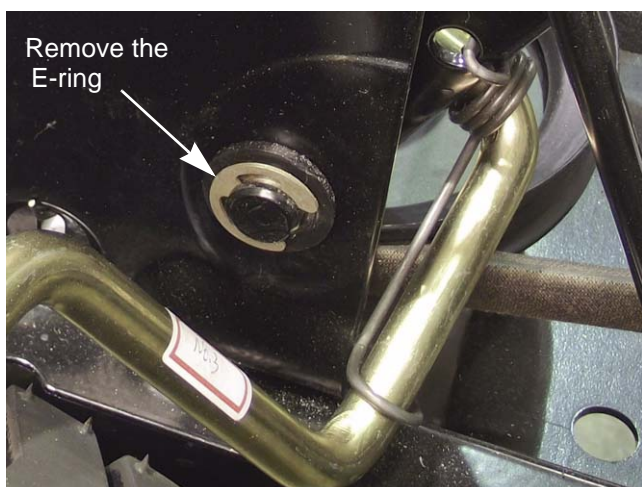

Figure 8.34
2. Remove the E-ring that retains the lift shaft bushing. See Figure 8.34.